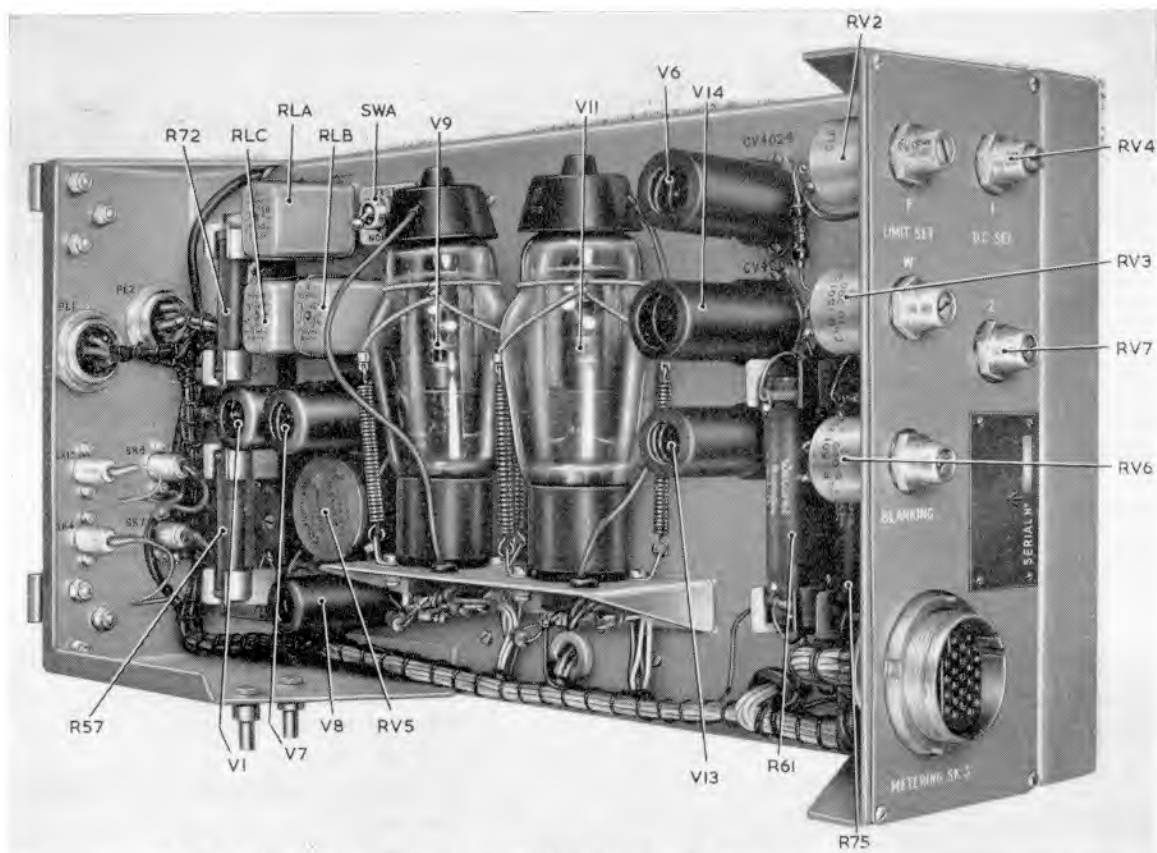

Fig. 1. Deflection amplifier (RH) Type 12476: overchassis view
1. The amplifying units, Type 12476 and 12477 (Stores Ref. 10U/17408 and 10U/17409 respectively) take the place of amplifying units Type 313 and 314 in a console Type 64 when the console is used in a full intertrace system. The units are mounted in the lower half of the console as shown in fig. 1, Chap. 6, but with the under-chassis (component boards, etc.) facing outward.
3. Figs. 1 and 2 give a general view of the X amplifier (Type 12476). The layout of the Y amplifier is a mirror image of the X amplifier.